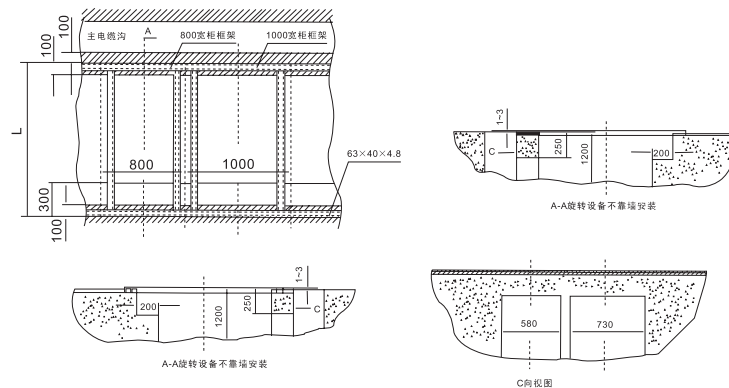
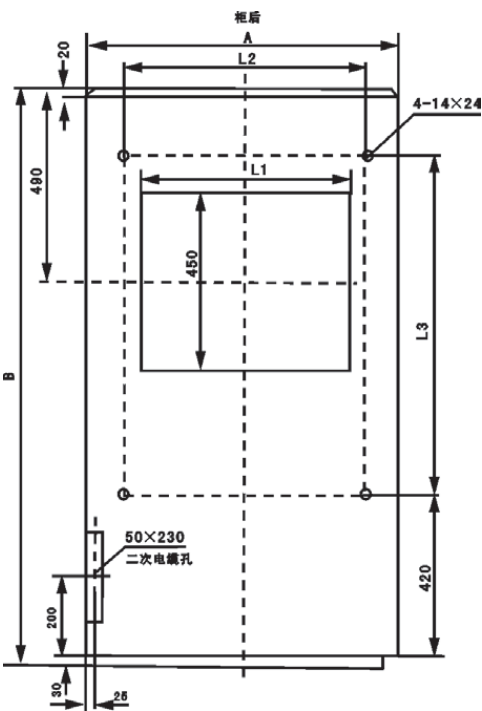

图 5 开关设备安装基础示意图
图 6 开关设备安装尺寸示意图
- a. 开关设备的安装基础尺寸与安装尺寸 (见表 7、表 8、图 5、图 6)
a.Dimension of installation foundation and installation of the switch equipment (see table7, table8, figure 5, figure 6)
- b. 一个柜接一个柜地安装母线，将母线段和对应的分支小母线接在一起，拴接时应插入合适的垫块，用螺栓拧紧。主母线与分支母线的联接形式见图 6。
b. Install the busbar one box by one box. Join the busbar section with branch busbar. Insert appropriate washer and fix them by bolts. The junction-type of main busbar and branch busbar see figure 6.